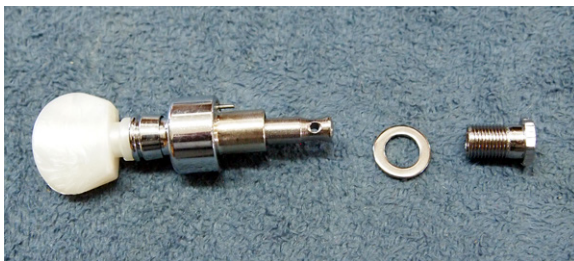

FIG. 21
- ___18. Install the 4 straight gears using a crescent wrench or nut driver, as shown here. The washer and threaded sleeve go down through the top of the peghead to engage the main body of the gear. (fig. 21)